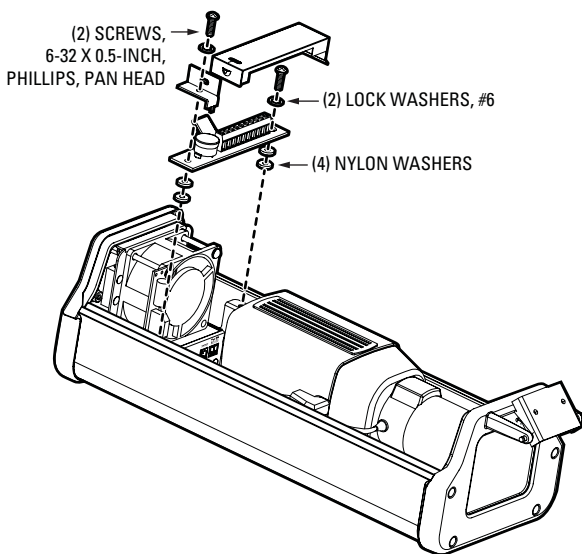

Figure 14. Reinstalling EH3512/EH3515 PC Board
- b. Attach the PC board and related accessories as follows (refer to Figure 14):
- (1) Attach the PC board and the cover bracket to the left EH3500 bracket using one 6-32 x 0.5-inch Phillips pan head screw and lock washer and two nylon washers.
- (2) Attach the other side of the PC board to the right EH3500 bracket using one 6-32 x 0.5-inch Phillips pan head screw and lock washer and two nylon washers.
- (3) Snap the PC board cover into place.